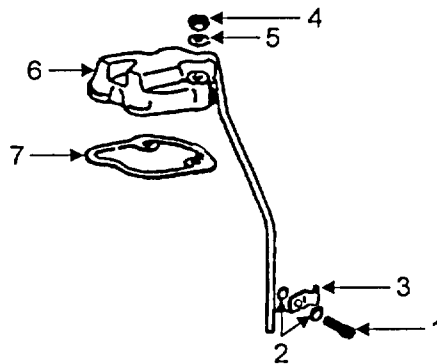

FIGURE 5-15. REMOVE VALVE COVER
- a. Loosen cap screw (Figure 5-15, Item 1), washers (2) and pipe clip (3).
- b. Remove two nuts (4) and two lock washers (5).
- c. Lift valve cover (6) off cylinder head.
- d. Remove and discard gasket (7)